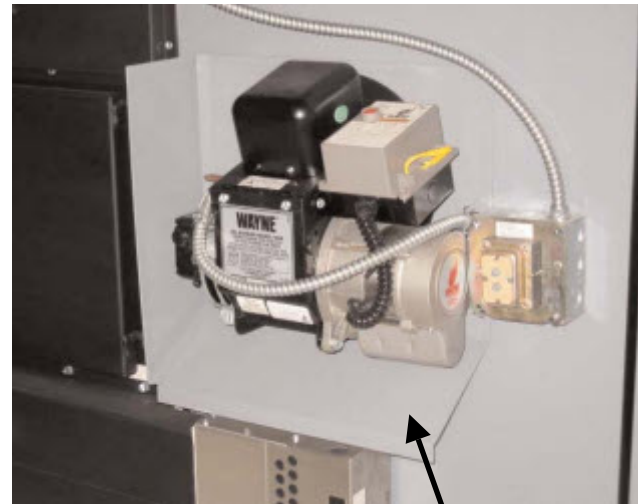

FIG. 10
2. Install drip shield (shipped in blower compartment) over studs. Place gasket (packed in burner box) over drip shield. (Fig. 10)
3. Install drip shield (shipped in blower compartment) over studs. Place gasket (packed in burner box) over drip shield. (Fig. 10)